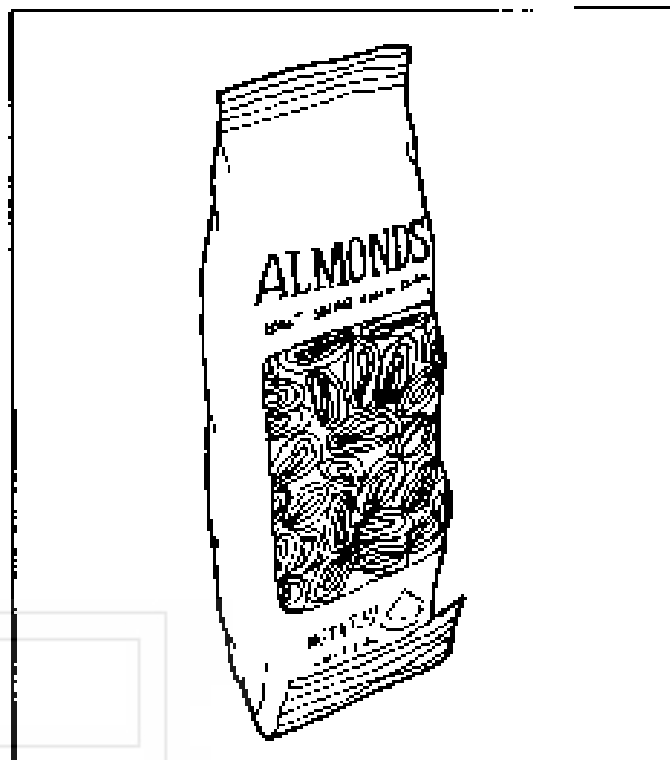

Figure 8. FOLD BAGGED ITEMS BOTTOM EDGE FORWARD AND UP.
10. **BAGGED OR BOXED ITEMS** in the 10-selection shelves if not treated properly could be a problem. The sealed edge of the bag may get under the spiral wire causing the product to hang up after it has been vended. It is recommended that the lower edge of these types of product be folded forward and up (see Figure 8) next to the product before inserting into the spiral space. It is also recommended to use an 18 count spiral for bagged items because of the product settling to the bottom of the package.